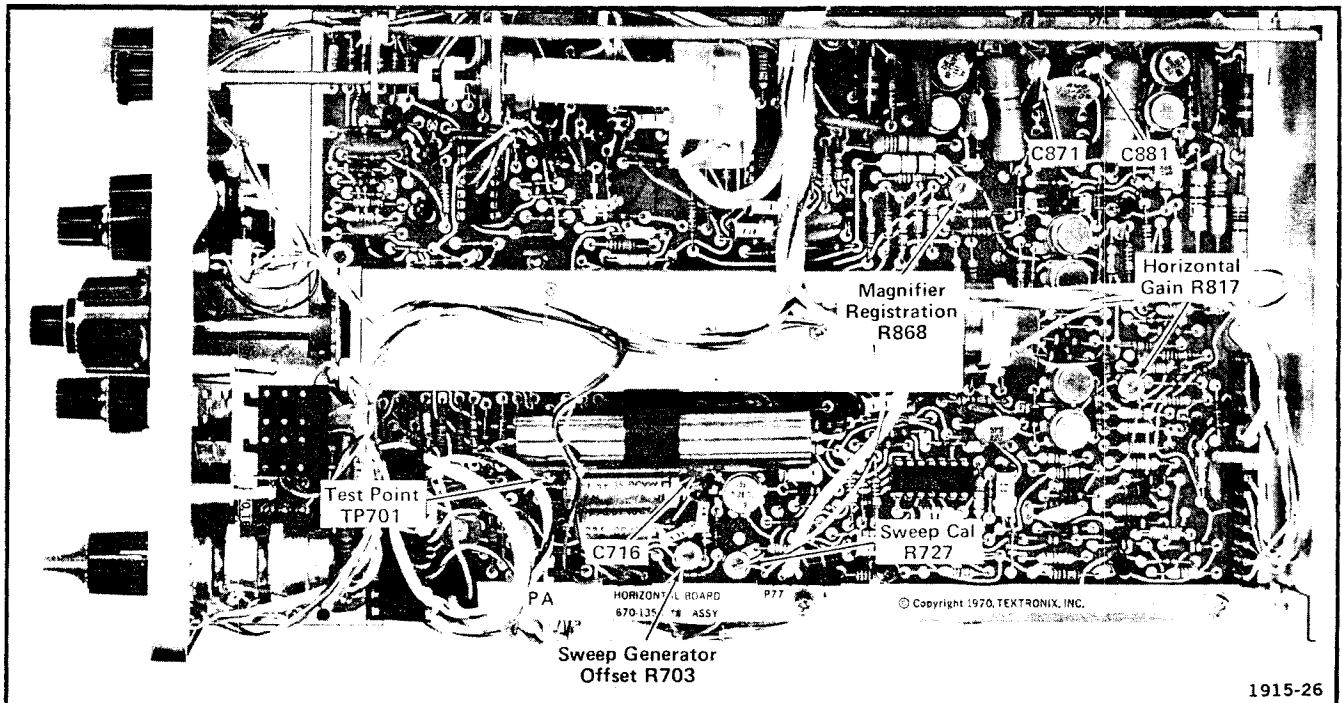

Fig. 5-9. Location of horizontal system adjustments and test points.
- Connect the tip of the 1X probe to TP701 (see Fig. 5-9).
f. ADJUST—Sweep Generator Offset adjustment R703 (see Fig. 5-9) to center the test oscilloscope display around the 0 V DC reference level.
- f. ADJUST—Sweep Cal adjustment R727 (see Fig. 5-9) for a sweep duration of 11 milliseconds.
- c. ADJUST—Horizontal Gain adjustment R817 (see Fig. 5-9) for one 1-millisecond time mark per division.
- f. ADJUST—Magnifier Registration adjustment R868 (see Fig. 5-9) to align the middle time mark with the center vertical graticule line.
- d. ADJUST—C716 (see Fig. 5-9) for two time marks per division.
h. ADJUST—C871 and C881 (see Fig. 5-9) for best timing and linearity, excluding the first and last 2 divisions of the magnified sweep.
k. ADJUST—C871 and C881 (see Fig. 5-9) as necessary for the best compromise of timing and linearity between $1 \mu\text{s}$ with 50X magnification (as in step 6 part i) and $.2 \mu\text{s}$ with 10X magnification (as in part 6 part e).